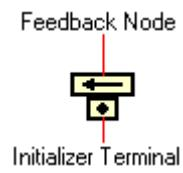

Figure 241: Feedback Node
**Feedback Nodes** provide a storage mechanism between loop iterations. They are programmatically identical to the **Shift Registers**. **Feedback Nodes** consist of an **Initializer Terminal** and the **Feedback Node** itself (see Figure 241).